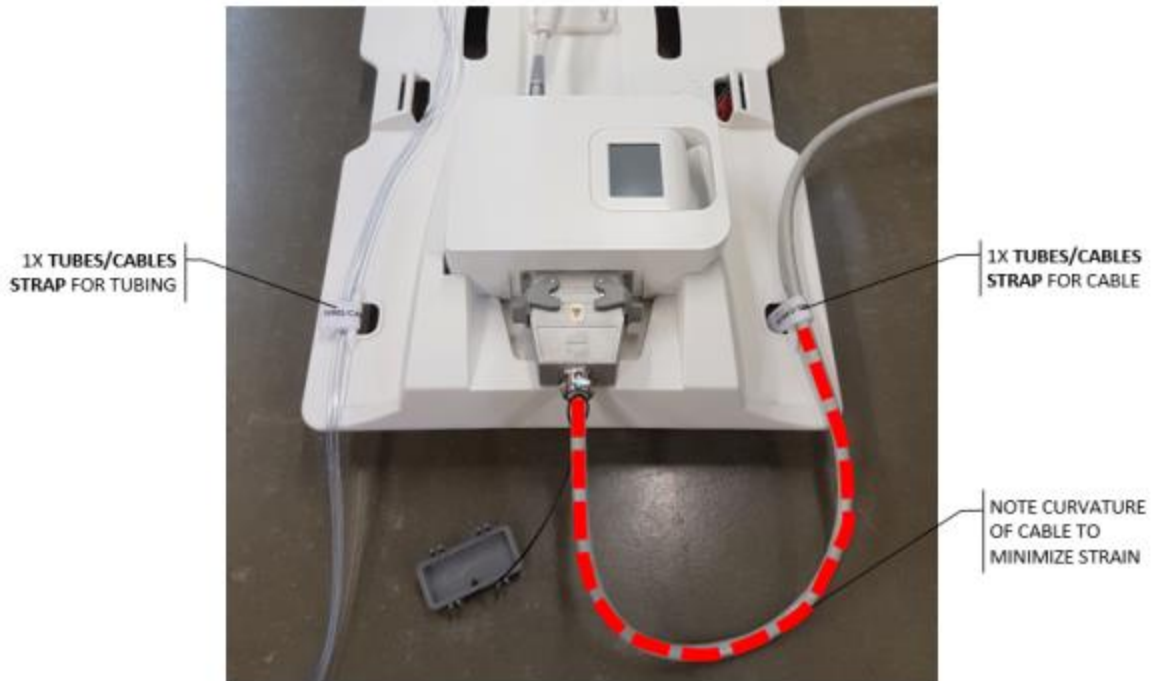

Figure 26: Tube-and-cable straps of base plate: one for tube sets and one for RF cable
4. MRI Technologist: Use tube-and-cable straps to manage fluid tubes and the white RF cable as shown in *Figure 26*. Leave some slack to allow the cables to slide freely and to reduce tripping hazards. Ensure no cables, tubing, or other materials can be caught while the MRI table is moving.